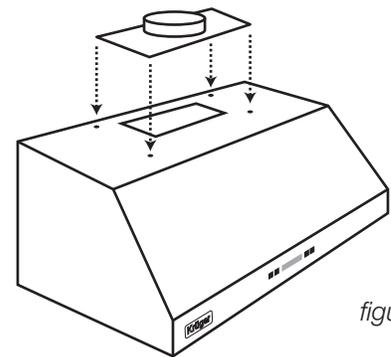

figure 3
2. Attach the included circular duct outlet to the exhaust outlet at the top of the unit. (figure 3)